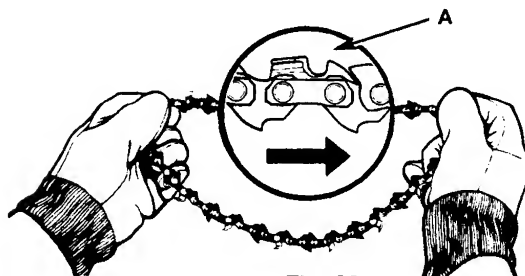

Fig. 20
1. Spread chain out in a loop with cutting edges (A) pointing CLOCKWISE around loop (Fig. 20).